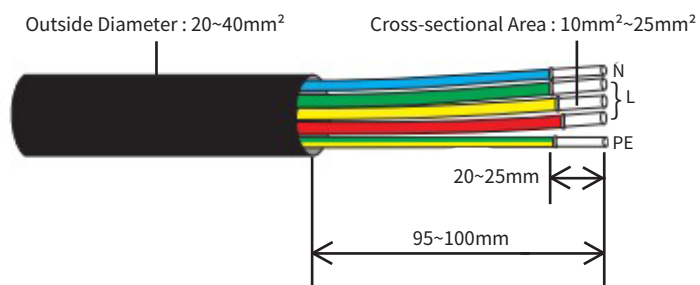

Figure 4-17
① peel the insulation sleeve of AC cable off for 95~100mm, and peel off the end of 3L /PE / N wires for 20~25mm, as shown in Figure 4-17: